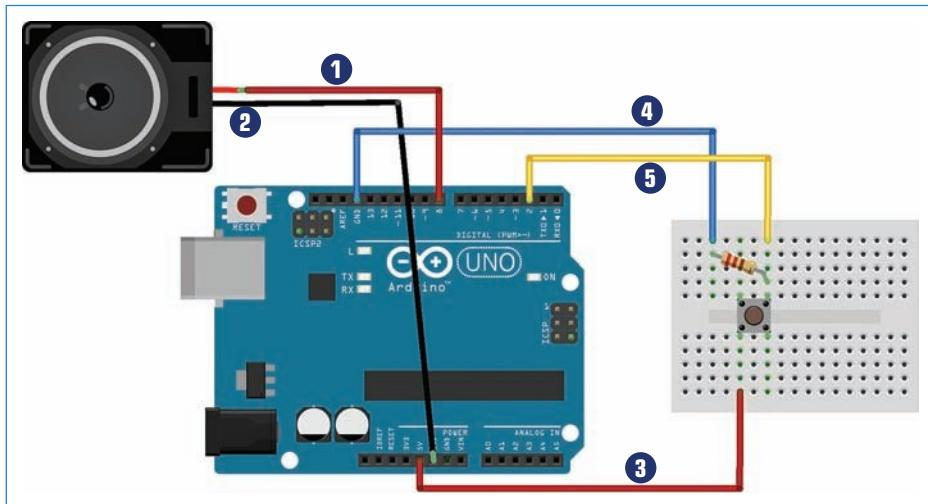

FIGURE 10.8 Wire up your Arduino as you see here.
This project is pretty easy to assemble. Just follow the wiring diagram shown in Figure 10.8 to see where to place the wires.
- 1 Plug an 8-ohm speaker in to pin 8 (the red wire in Figure 10.8).
- 3 Connect the 5V port of the Arduino to one lead of the pushbutton. This is the green wire in Figure 10.8.